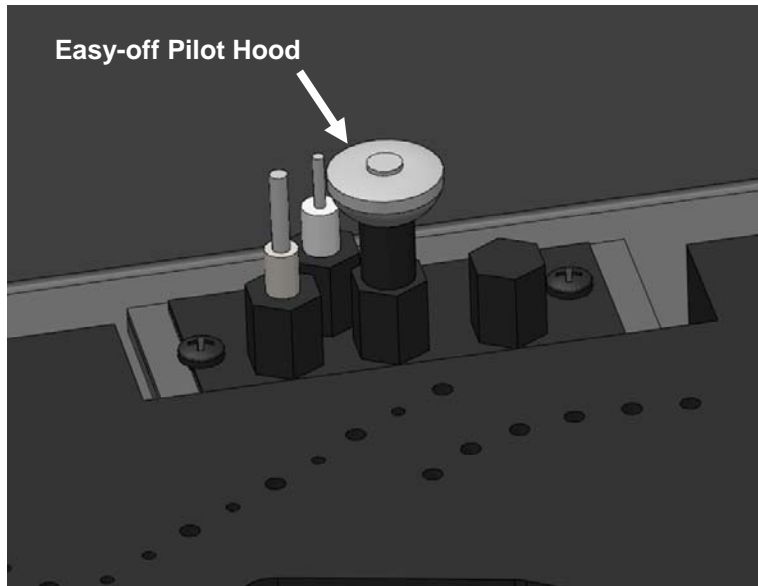

Figure 2
4. Locate the pilot assembly inside the stove. See Figure 2. Remove the easy-off top of the pilot burner hood by grasping it and pulling it up, and off the pilot assembly. Removal of the pilot shield (if present) may be necessary for access.